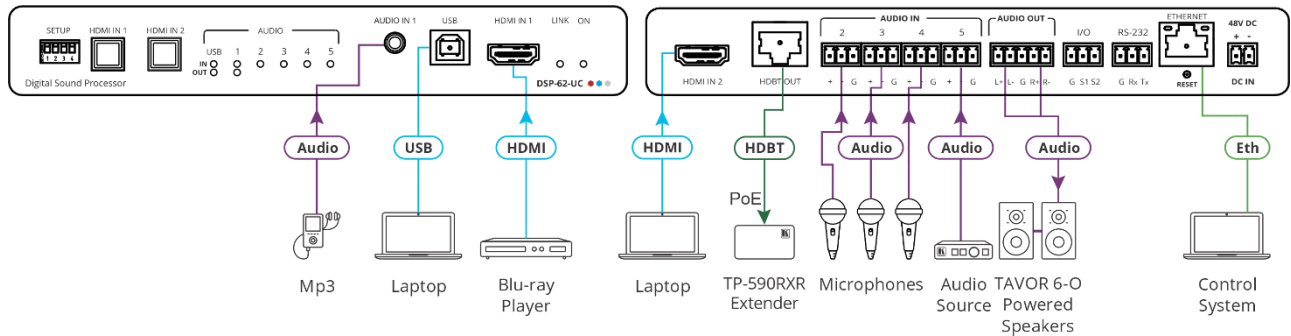

Figure 6: Connecting to DSP-62-UC
To connect DSP-62-UC as illustrated in Figure 6:
9. Connect the 48V DC power adapter to DSP-62-UC and to the mains electricity (not shown in Figure 6).